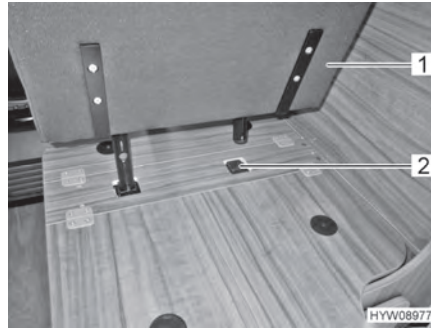

Fig. 16 Place the attachable seat in the holder
- Place the attachable seat (Fig. 16,1) in the holder (Fig. 16,2).